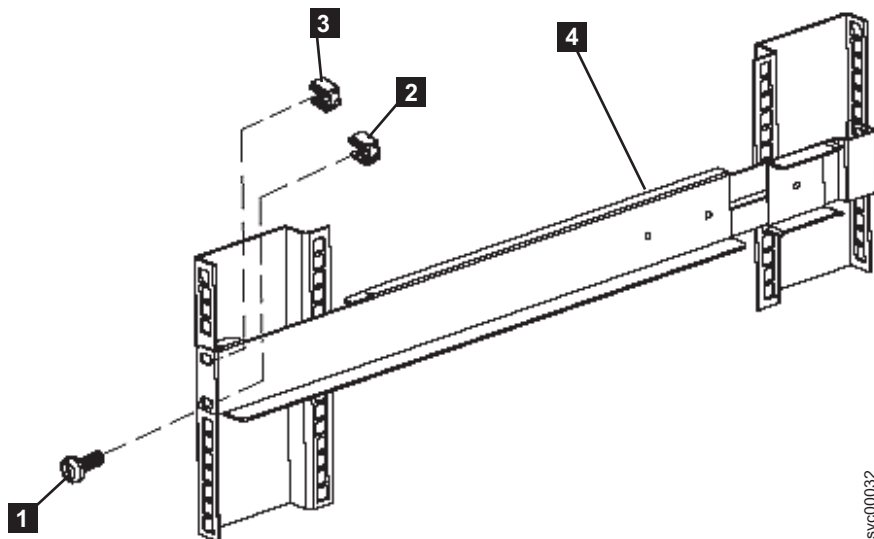

Figure 27. Securing the front rail on the 2145-1U uninterruptible power supply
8. Attach only the bottom hole of the rail to the front of the rack with one M6 × 10 screw and one clip nut (**1** in Figure 27).